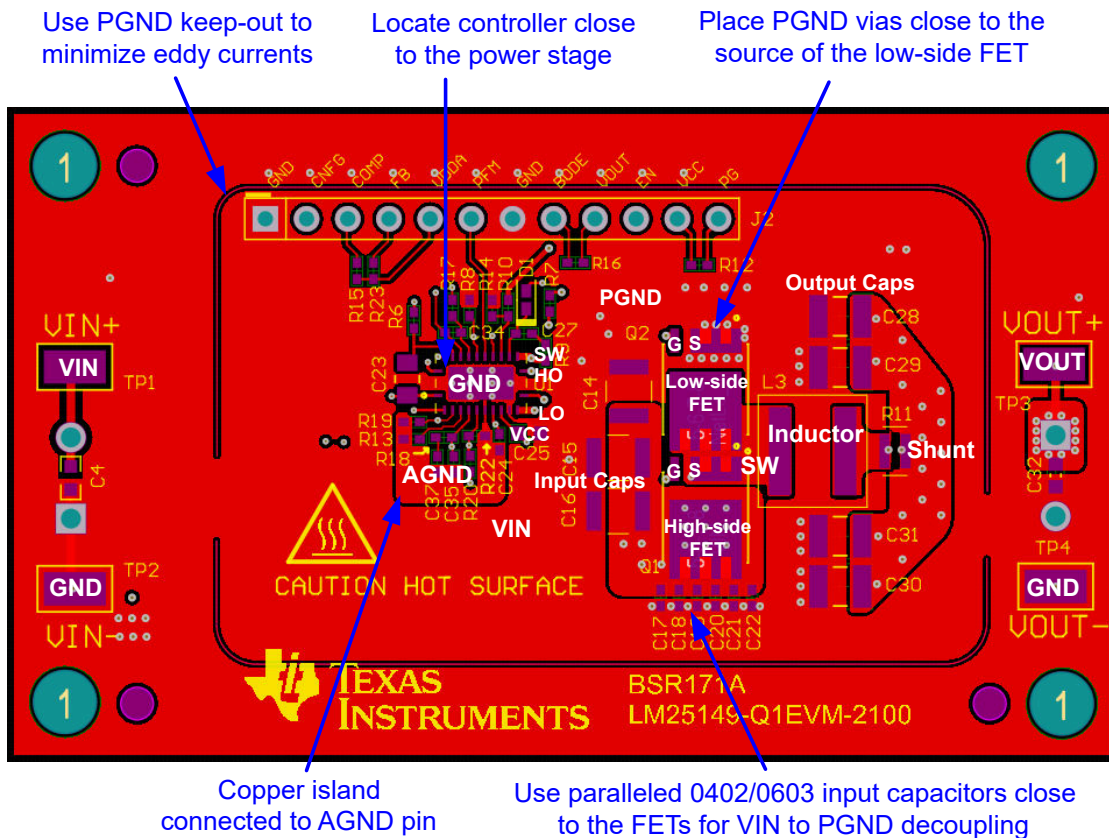

图 11-2. PCB Top Layer – High Density, Single-sided Design
图 11-2 shows a single-sided layout of a synchronous buck regulator with discrete power MOSFETs, Q1 and Q2, in SON 5-mm × 6-mm case size. The power stage is surrounded by a GND pad geometry to connect an EMI shield if needed. The design uses layer 2 of the PCB as a power-loop return path directly underneath the top layer to create a low-area switching power loop of approximately 2 mm2. This loop area, and hence parasitic inductance, must be as small as possible to minimize EMI as well as switch-node voltage overshoot and ringing.
- Make the ground connections to the LM25148-Q1 controller as shown in 图 11-2. Create a power ground directly connected to all high-power components and an analog ground plane for sensitive analog components. The analog ground plane for AGND and power ground plane for PGND must be connected at a single point directly under the IC – at the die attach pad (DAP).